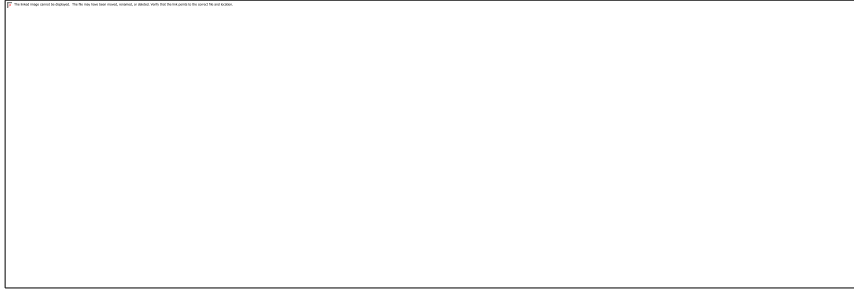

Figure 4-10
16. Select *Reports|Zone Design Reports|Zone Design Summary*. This report summarizes what is happening in the zone – from the outlets to the control valve as seen in Figure 4-10.